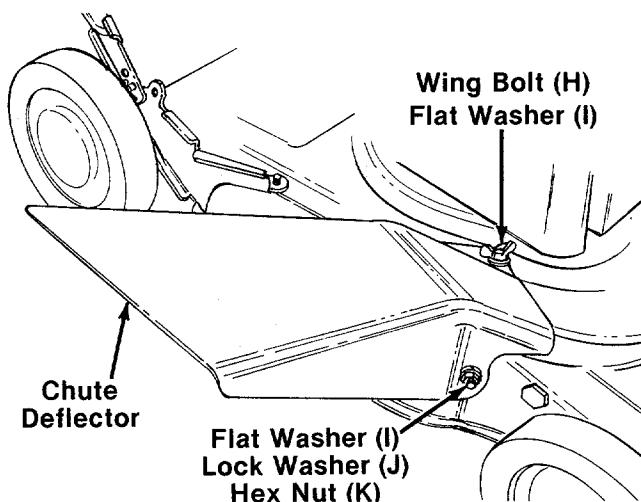

FIGURE 11.
4. Place the holes in the chute deflector over the bolts protruding from the right hand side of the deck, and slide it into position. Secure the top of the deflector with one flat washer (I) and wing bolt (H). See figure 11.
5. Secure the front of the deflector to the bolt protruding from the deck with one flat washer (I), lock washer (J) and hex nut (K). See figure 11.